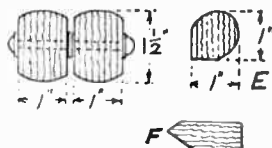

Fig. 4—Section of frames and rivets, rails (E) and supporting rail (F)
diagram Fig. 4. Section (E) in this diagram shows the rails which take the canvas.